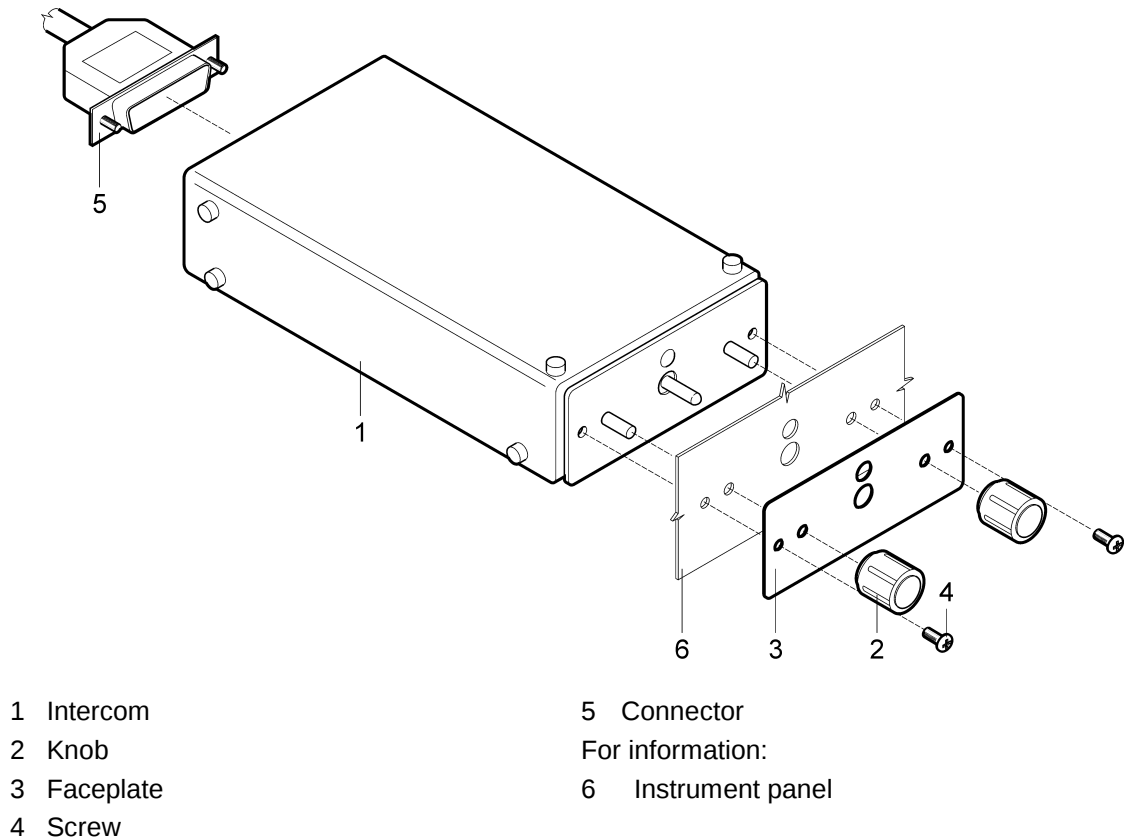

Fig. 12-33: Intercom removal / installation
- (b) Disconnect the connector (5, Fig. 12-33) from the unit.
- (c) Remove the knobs (2) from the volume and squelch control shafts.
- (d) Unscrew the screws (4) and remove the faceplate (3).
- (e) Carefully remove the unit (1).
- (b) Insert the unit (1, Fig. 12-33) from behind the instrument panel, aligning the holes for the knobs, LED, and switch.
- (c) Place the faceplate (3) over the knob shafts and secure it by means of the two screws (4).
- (d) Install the knobs (2) over the volume and squelch control shafts.
- (e) Connect the connector (5) to the unit (1).